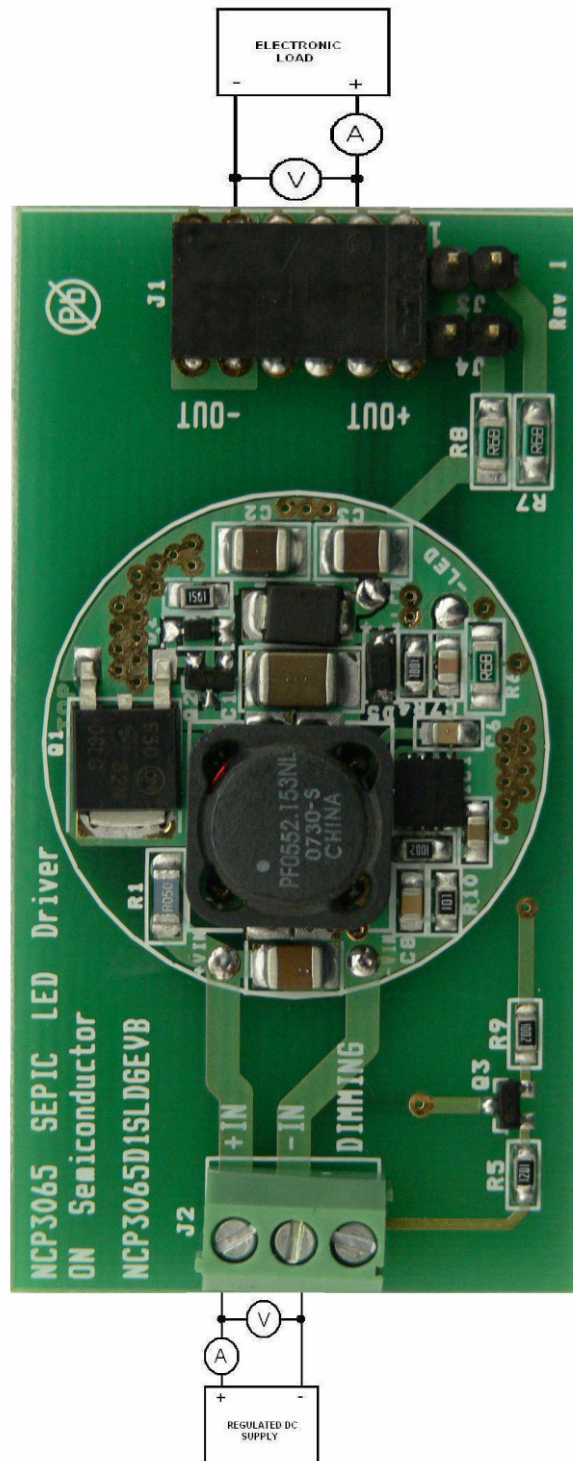

Figure 1 : Test Setup
1. Connect the test setup as shown in Figure 1.